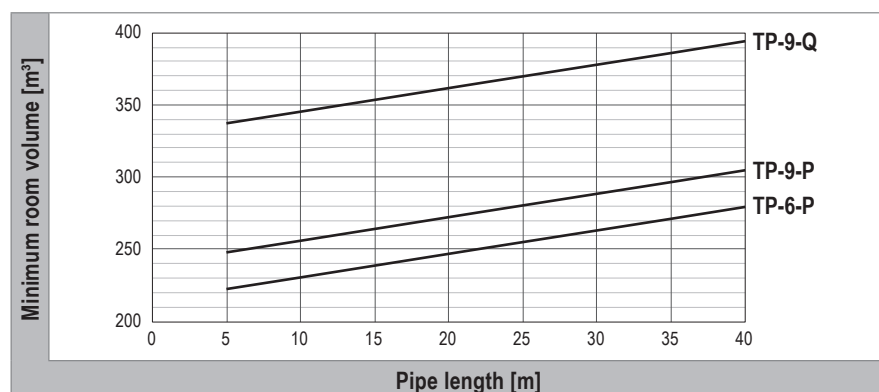

Fig. B5: Minimum room volume depending on the total refrigerant charge in accordance with EN 378
- The room volume corresponds to the minimum values shown in Fig. B5 meaning that the permissible QLMV value is not exceeded.